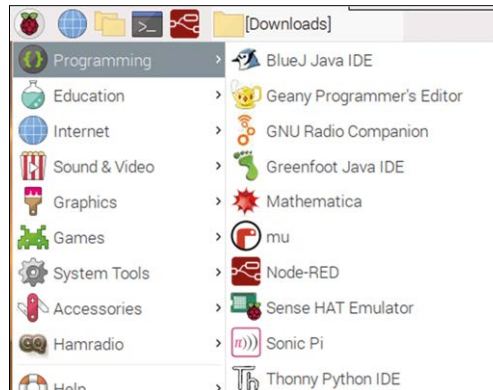

Figure 2.6: Start Thonny on your Raspberry Pi.
- Click Menu, followed by **Programming** on your Raspberry Pi Desktop and then click **Thonny Python IDE** (see Figure 2.6). The author had version 3.3.3 of Thonny installed on his Raspberry Pi 4.